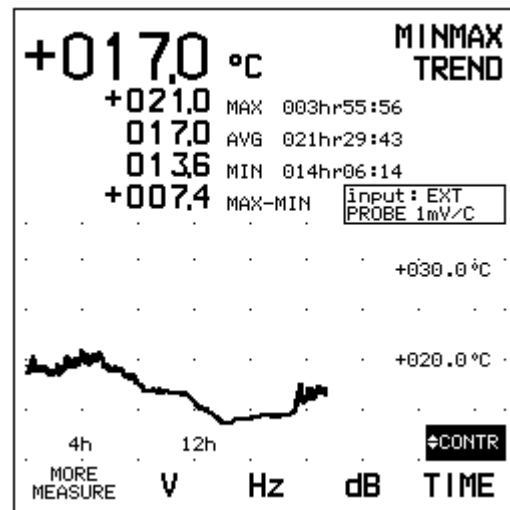

Figure 7-2. Temperature Measurement with Trend Plot
- ⑤ Move the slide switch on the probe to the °C position.
- ⑥ The actual air temperature appears on the display.
- ⑦  The test tool starts continuously recording the air temperature and graphs the minimum, maximum, and average temperatures on the display. After about 24 hours the display appears as shown in Figure 7-2.